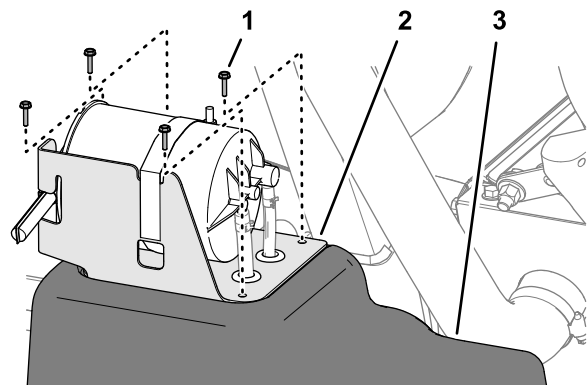

Figure 115
2. At the fuel tank, remove the 4 screws (#10 x 3/4 inch) that secure the carbon-canister bracket to the top of the fuel tank (Figure 115).